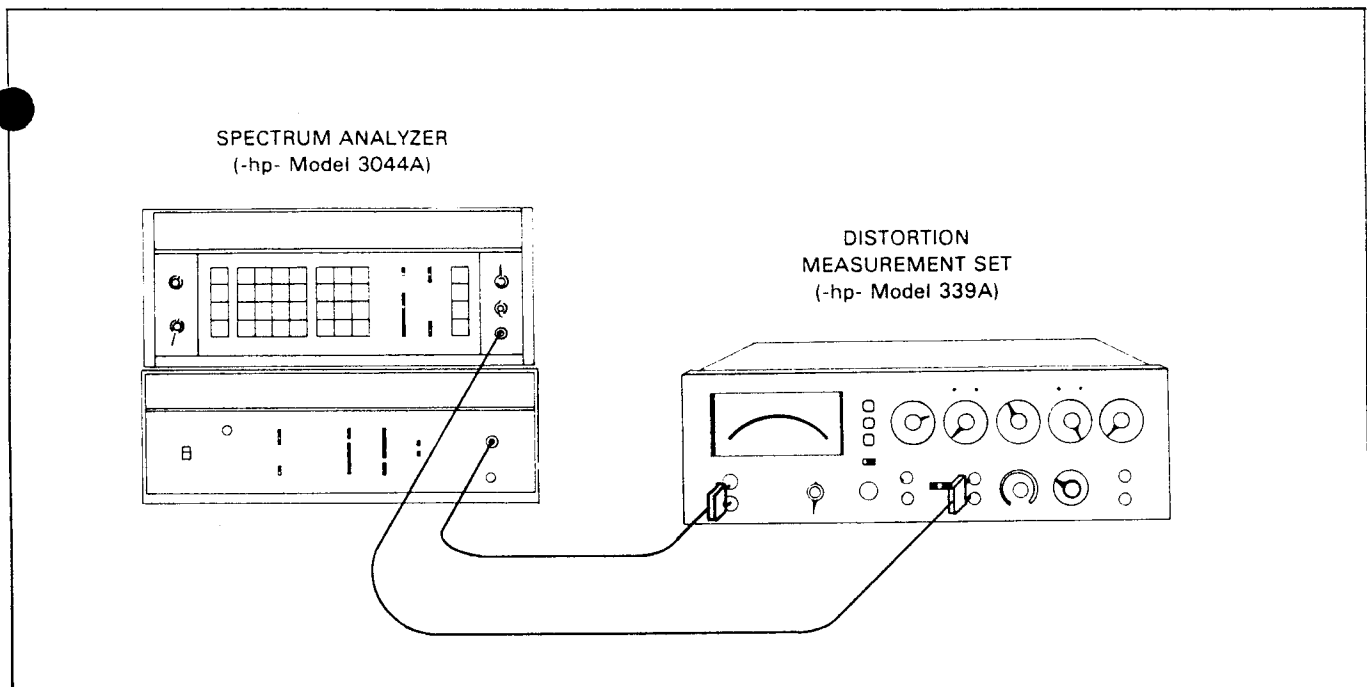

Figure 4-4. Filter Accuracy Test.
b. Connect the equipment as shown in Figure 4-4.